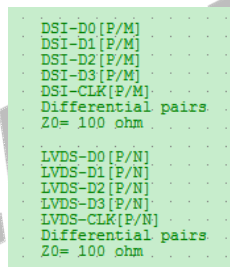

Figure 2-51 The Trace Impedance Requirement of LVDS/MIPI-DSI
- Mark the trace impedance requirements of LVDS/MIPI DSI signal lines in the schematic diagram to facilitate PCB layout design, as shown in Figure 2-51.